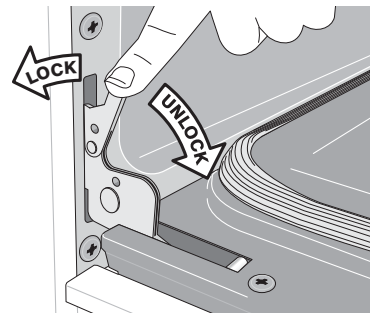

Figure 22: Hinge lock/unlock positions
2. Pull the door hinge locks on both left and right door hinges down from the oven frame completely towards the oven door (Figure 22). A tool such as a small flat-blade screw-driver may be required.
4. Push the door hinge locks up towards and into the oven frame on both left and right oven door hinges (Figure 22) to the locked position; then, close the oven door.